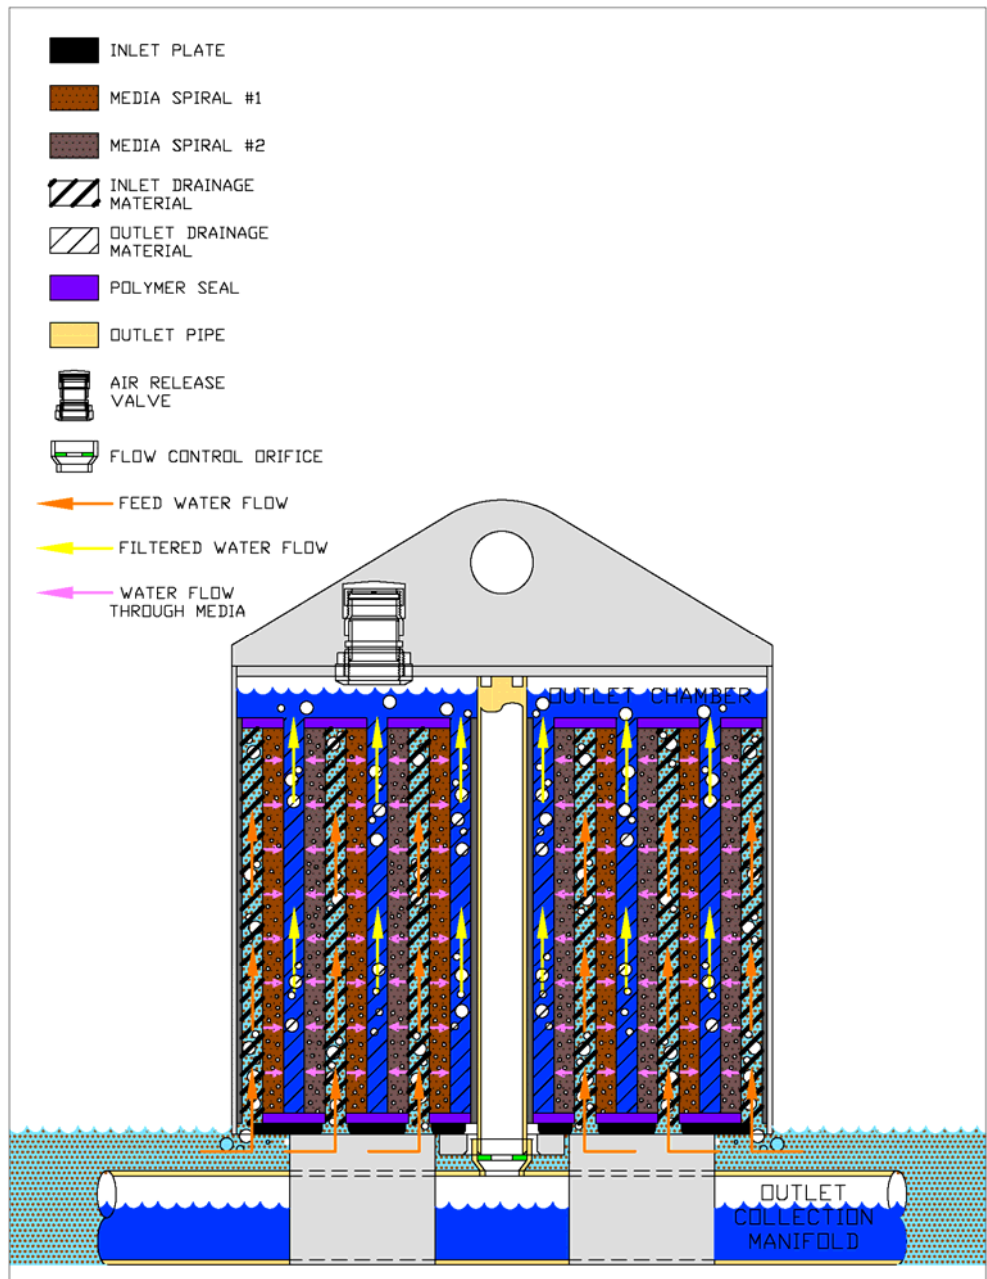

Figure A-4: Siphon Break
D. When air enters the filter, the siphon breaks (Figure A-4), and a gravity-driven backwash occurs with all of the water flowing from the outlet chamber backwards through the filter media (Figure A-5). This backwash has the effect of dislodging particles captured in the filtration layers and re-establishing porosity. Dislodged particles are transported back in to the filter vault and accumulate on the filter vault floor.